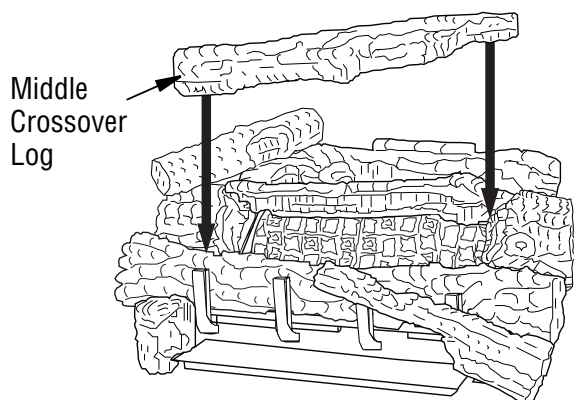

Figure 39 - Installing Middle Crossover Log
11. Rest the middle crossover log onto the right middle log and the left front log (see **Figure 39**). Make sure to match the projection on the bottom of the crossover log with the recess area in the right middle log and the left front log.